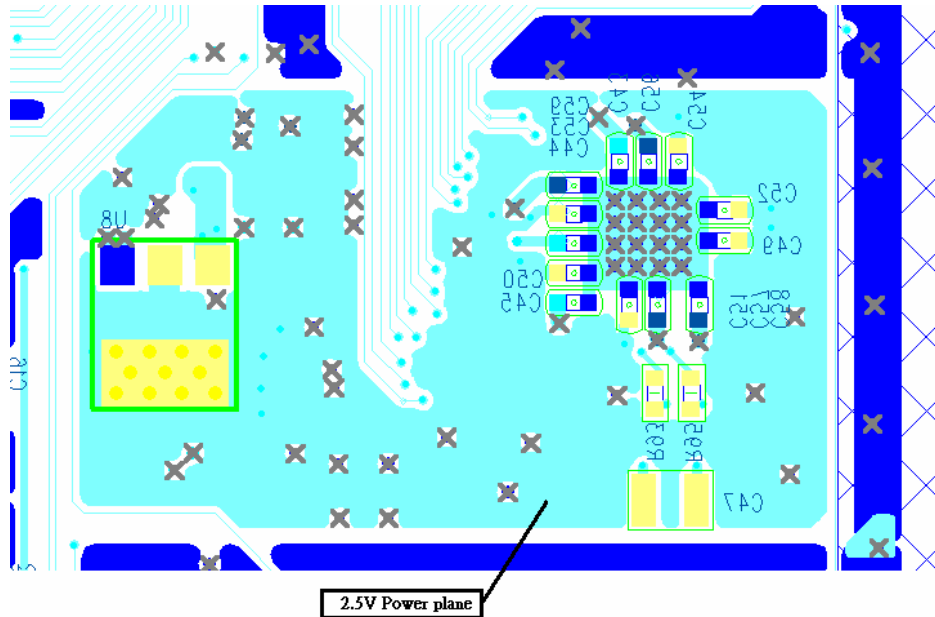

Fig.6 AFE layout (bottom layer)
- (1) MT3201 need 3 power source and each need have power plane to supply AFE.
- (2) We recommend 2.5V power plane on bottom layer and circle with AFE GND pad consistently, as show in Fig.6